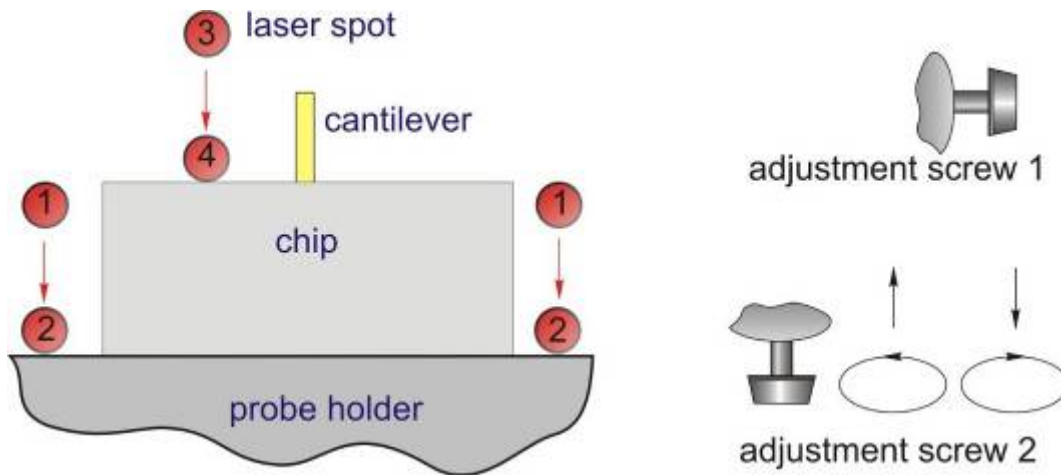

Fig. 2-45
1. If undistorted laser image is seen on the screen (i.e the laser beam passes freely through the measuring head), move the spot towards the holder perpendicular to the chip front edge (or, depending on the spot initial position, perpendicular to the holder front edge) and position it just near an edge as shown in Fig. 2-45. This laser spot alignment is performed by turning the adjustment screw 2 clockwise. Then, notice the spot approx. position and proceed to step 4).
- Begin turning adjustment screw 2 clockwise. The spot will move towards the chip front edge or the probe holder front edge. This is shown schematically in Fig. 2-45 as a travel from locations 1,3 into locations 2,4;
- Next, fine - position the spot just near an edge (locations 2,4 in Fig. 2-45). To do so, turn slightly adjustment screw 2 counterclockwise until the image distortion vanishes.